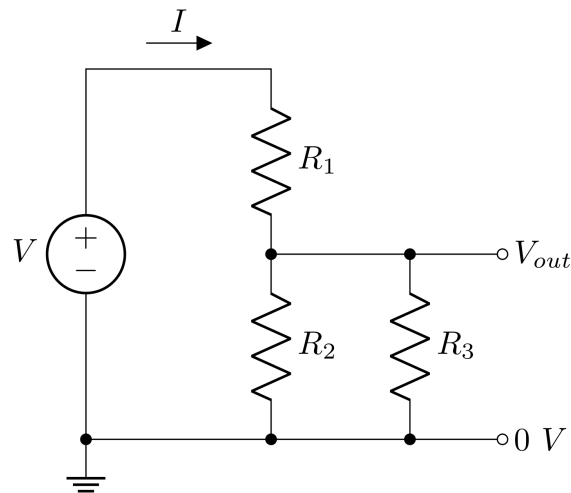

Figure 2: Modified Voltage Divider
3. Calculate the voltage V_{out} for the modified circuit shown in Figure 2 with $R_3 = 10\text{ k}\Omega$ and the other components unchanged.
4. An additional load is connected between V_{out} and ground in the form of the resistor R_3 as shown in Figure 2 . Calculate the voltage V_{out} for this circuit (with the non-ideal power supply) and with $R_3 = 10\text{ k}\Omega$.
6. *Complete this step only if your model and measurements did not agree.* If your model and measurements did not agree, you will have to either refine your model or your experiment. Let's start by refining your model. Consider the input resistance of your measurement device. Draw a circuit diagram that includes that resistance. *HINT: See Figure 2* Derive an expression for the output voltage now including the unknown measurement device resistance. Use this new model to determine the input resistance of measurement device. (that is, rearrange your equation to solve for R_3). You may have this from your prelab.